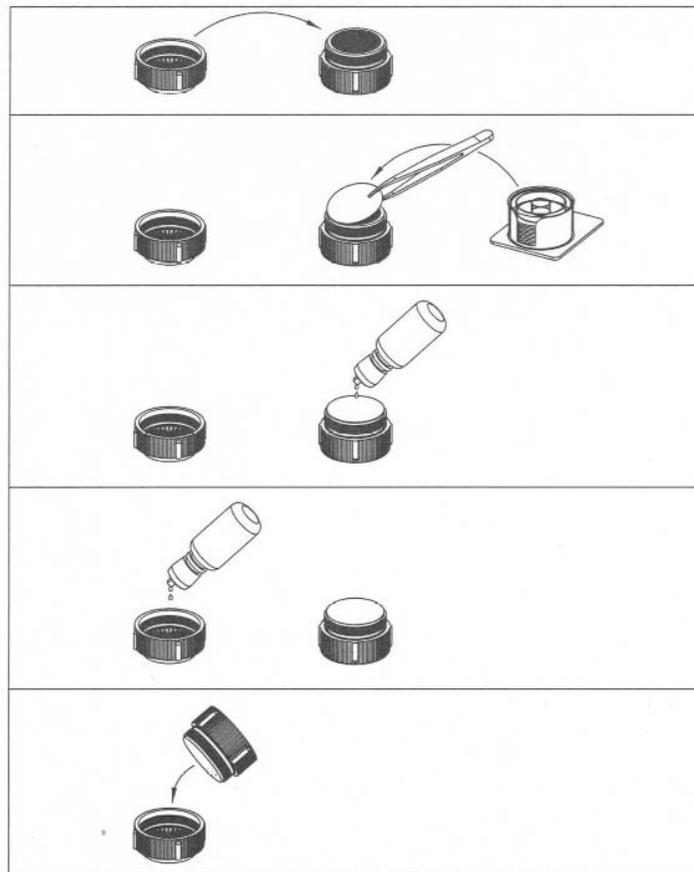

Figure 3.5
2. Remove the 5/8-inch outer diameter (OD) plastic tubing from the filter holder.
3. Remove the top of the filter holder by unscrewing counterclockwise and place the holder top on a flat surface, filter support facing up (Figure 3.5, Placing Filter on Filter Holder).
4. Open the filter box and, with tweezers, remove a 0.45 micron membrane element filter. Discard the used filter spacers and interleaves. Using tweezers, place a new 0.45 micron filter on the filter holder top. Filter orientation is not important (Figure 3.5).
5. Wet the membrane element filter with a few drops of water until no dry areas can be seen (Figure 3.5).
6. Add water to the lower membrane element filter holder using a water bottle. This will eliminate bubbles at the filter surface (Figure 3.5).
7. Replace upper filter housing. Turn top filter over and screw into bottom filter holder mounted in the kit (Figure 3.5).